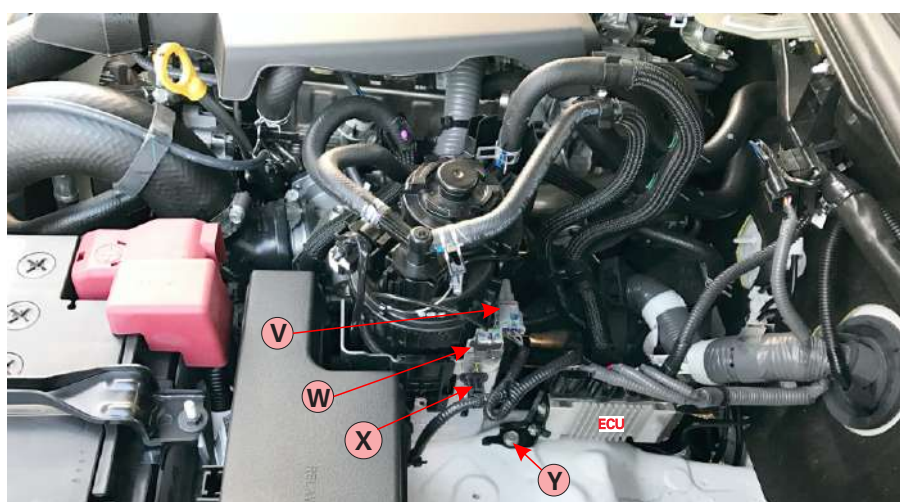

FIG. 1 FACTORY FUEL FILTER IDENTIFICATION
2. To remove the factory bracket, disconnect electrical connector (V), dismantle filter housing lock cable clip (W) and cable harness clip (X). Remove the bolt securing the ECU to the wheel arch besides the factory filter bracket (Y). See detail in Fig. 1.